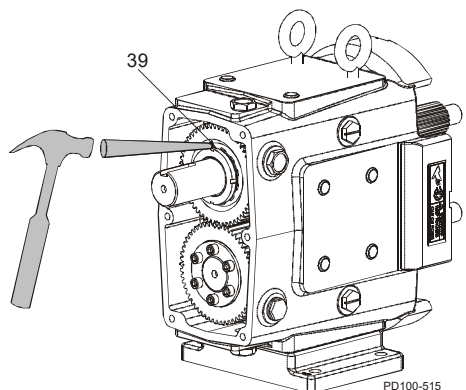

Figure 35 - Straighten Lock Tab on Lock Washer
3. Pull the cover (item 4) off the shaft extension. If the cover sticks, use a soft hammer to loosen it.
4. Remove the silicone sealant (item 25) from the gear case and cover.
5. Using an arbor press, remove the oil seal (item 12) from the cover. Discard the used oil seal.
6. Straighten the tab on the lock washer (Figure 35, item 39).